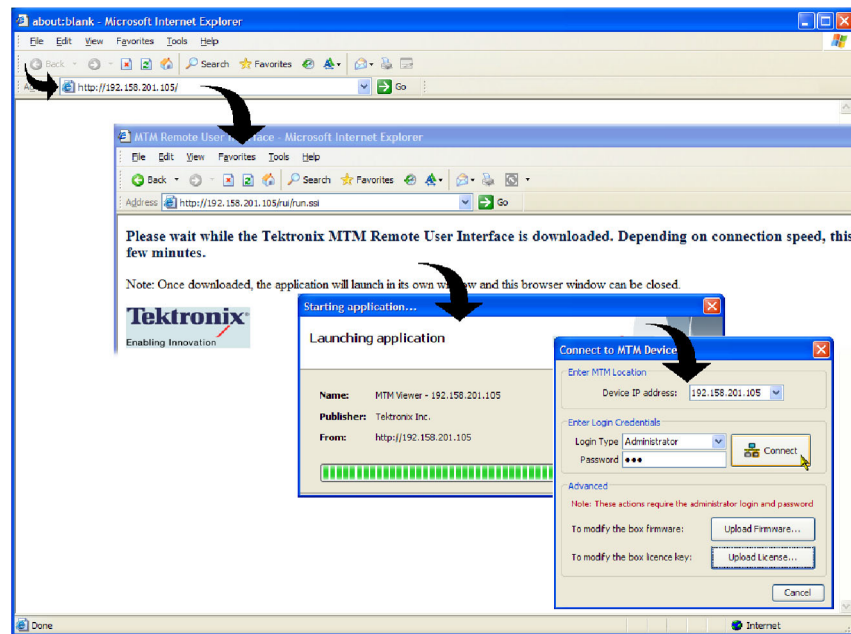

Figure 1: Logging on to IPM400A monitor
3. After the Java applet is downloaded, the Connect to MTM Device dialog box is displayed. (See Figure 1.)